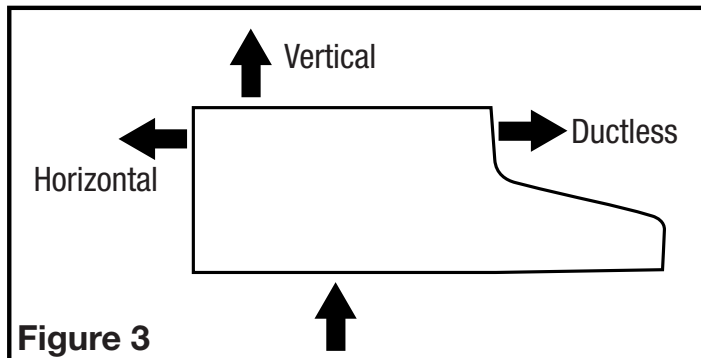

Figure 3
1. Choose the type of ducting you will require. To ensure the best air and sound performance, it is recommended that the length of ducting and the number of elbows be kept to a minimum, the radius of each elbow be as large as possible for the installation, and that hard ducting be used. Larger duct sizes will reduce noise and airflow restrictions. This model is equipped to vent either Vertically or Horizontally through a 3-1/4" x 10" duct. It can be modified to be ductless (re-circulates the air back into the kitchen) with the addition of 2 models CF-01 Charcoal Filters (not included) (**Figure 3**).